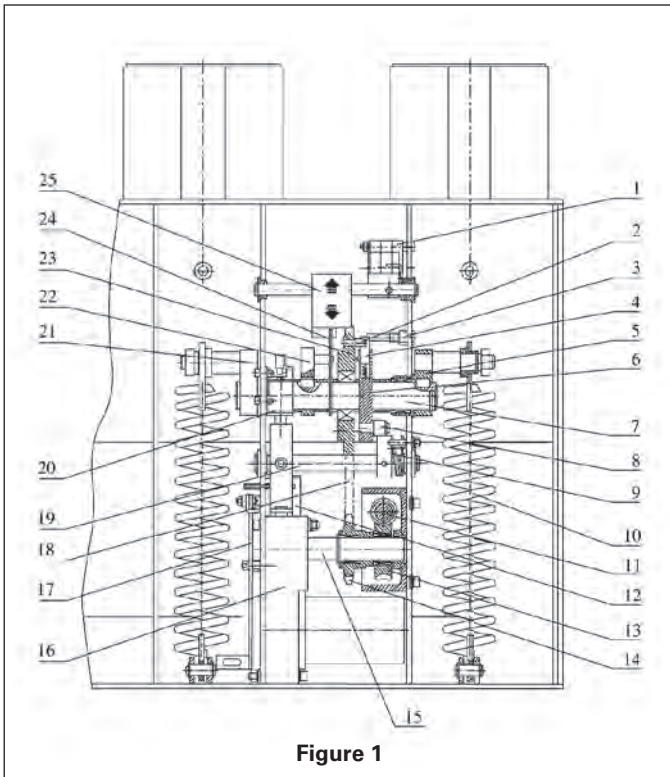
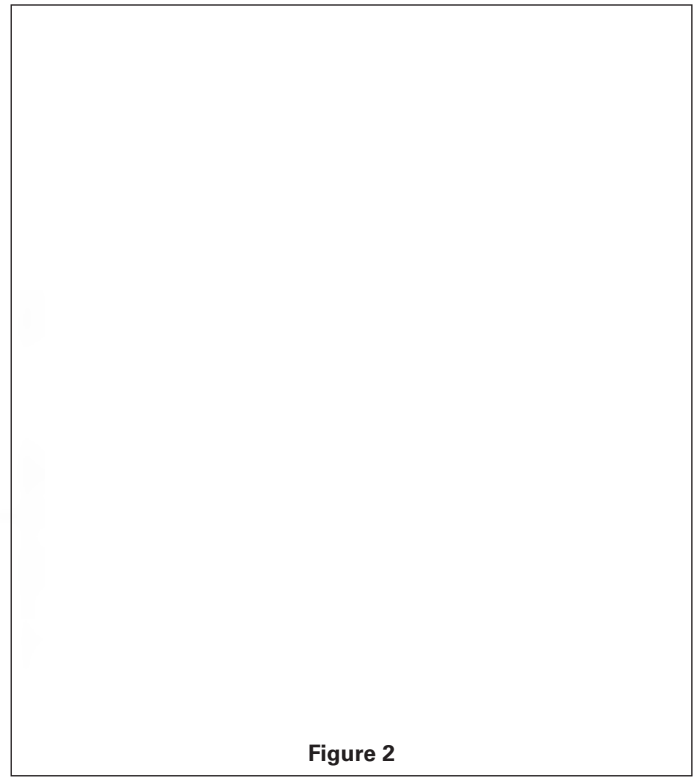

Figure 1
Figure 2
6.2 Operating mechanism (see Figure 1 and Figure 2)